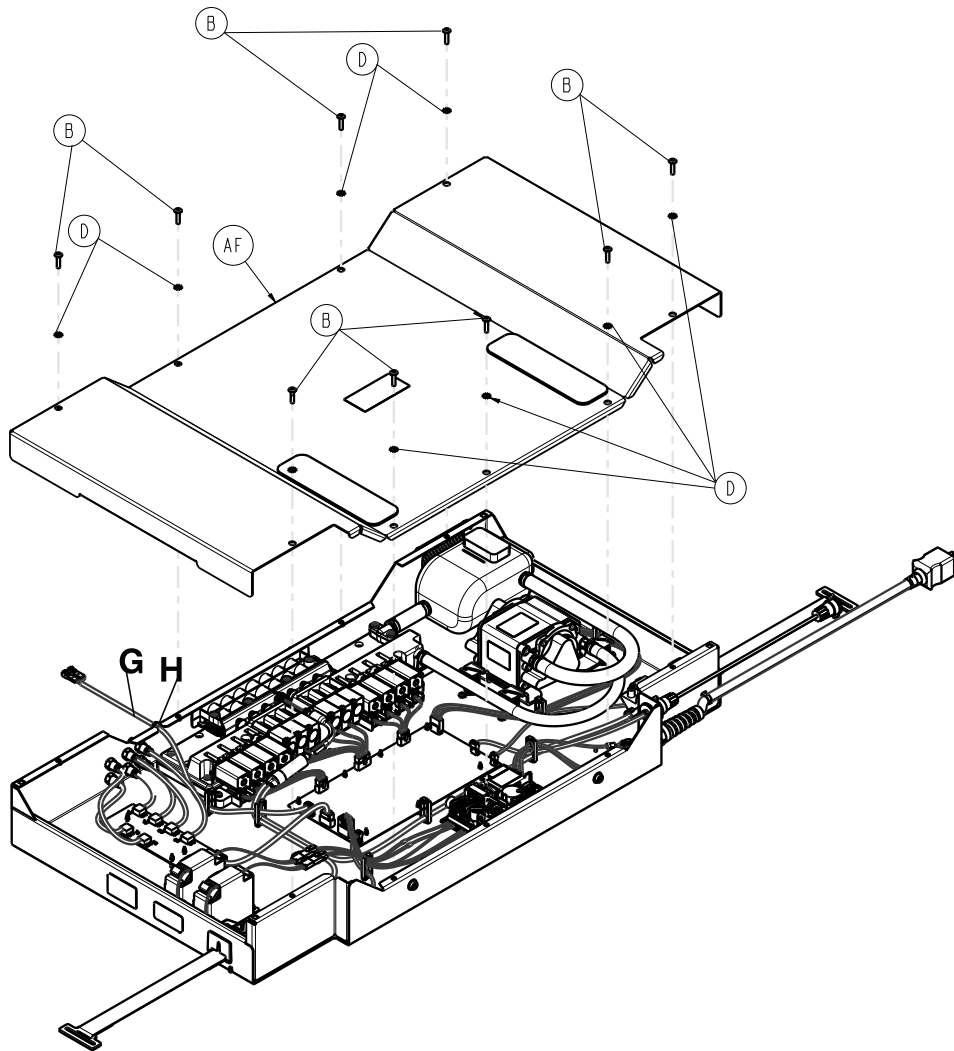

Figure 1-18: Foot box cover
12. Remove the foot box cover Velcro® retainer straps (E) from the foot box cover (Figure 1-18 on page 1-42).
- During reinstall, tighten the screws equally and do not over tighten. Torque (B) to 22 ± 4 in-lb.
- During reinstall, check the LAL fan cable (G) and grommet (H) are in place before replacing the foot box cover (1-18 Foot box cover on page 1-42).
14. Remove the foot box cover (AF) (Figure 1-18 on page 1-42). Save the foot box cover.